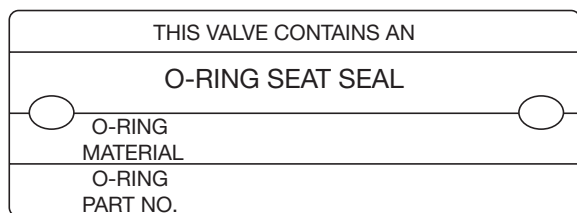

Figure 38: Valve O-Ring Tag
6. If the valve has an O-ring seat seal, the O-ring should be replaced. Please refer to its tag plate (see Figure 38) to determine O-ring material and "as-built" part number.